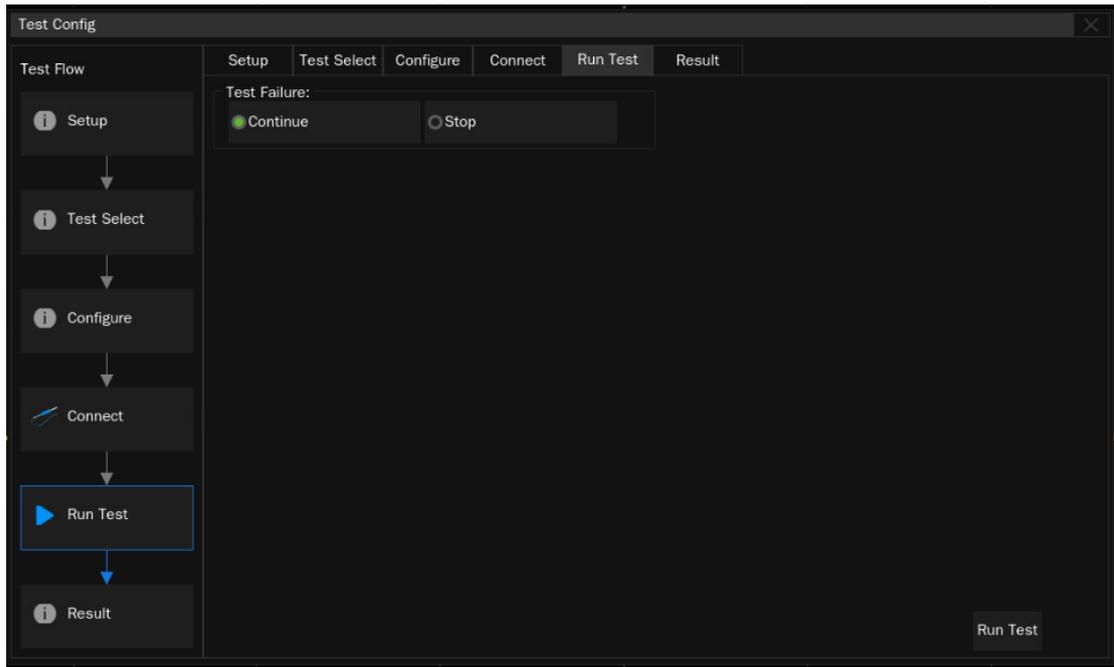

Figure 4-7 Run Test Window
- **Run test:** The Run Test window is shown in Figure 4-7. Both " **Continue** " and " **Stop** " options are supported when meets test failures.